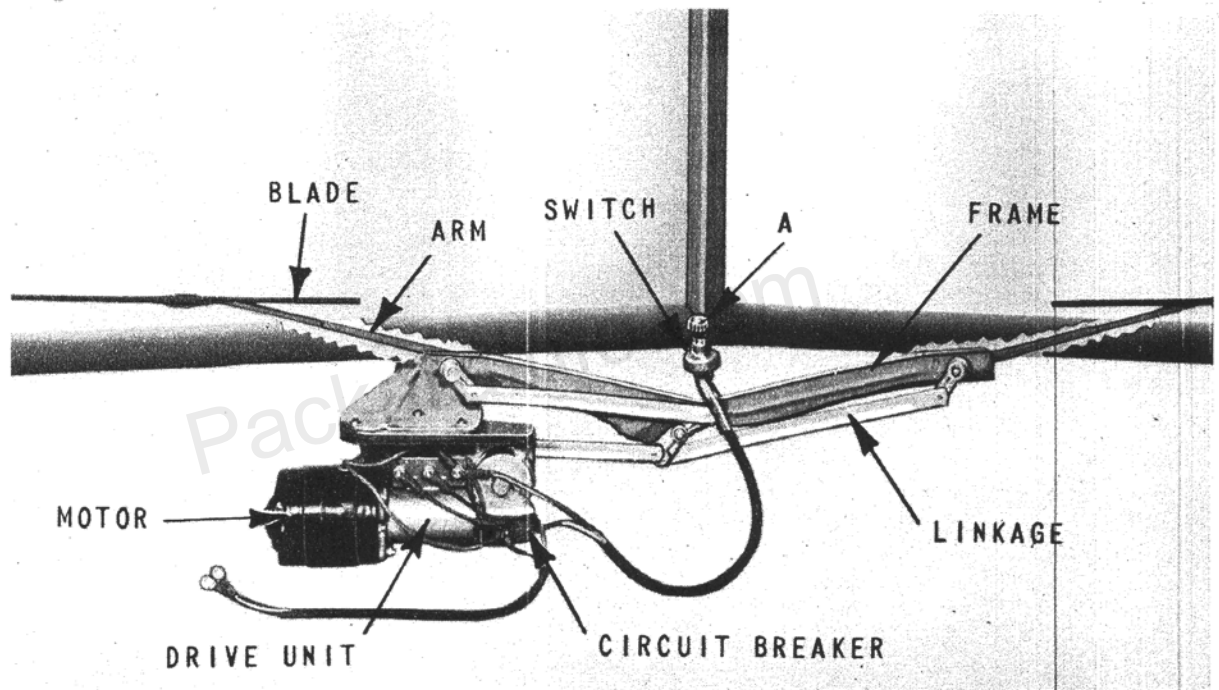

Figure 1 Complete Windshield Wiper
1. Pull off control switch knob on panel of car ("A", Figure 1) and remove switch mounting nut.